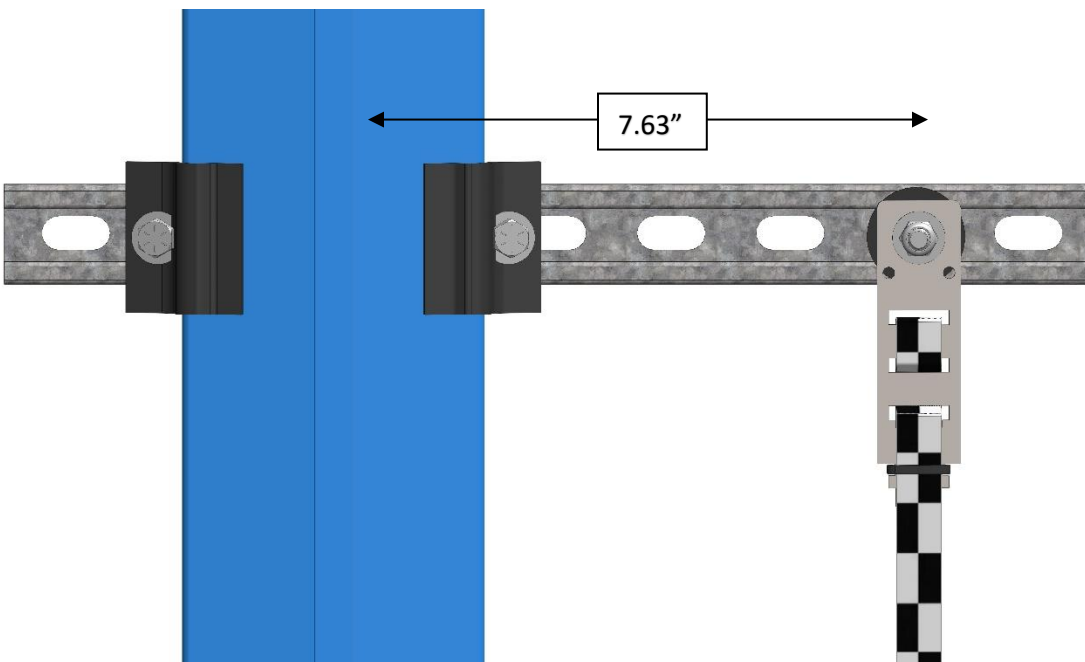

Figure 9: Upper tape Unistrut Installation
- Affix an 18" length of Unistrut to the top of guide rail as shown in figure 9.
- Position the Upper Tape Mount Assembly $7\frac{5}{8}$ " from the surface of the guide rail to the center of the $\frac{3}{8}$ " bolt as shown in figure 9.